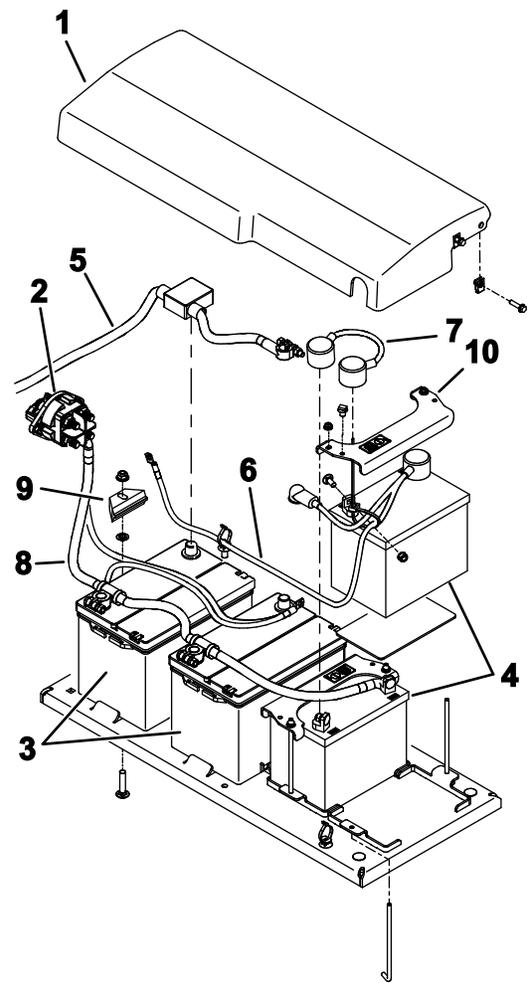

**Figure 112**
5. Remove the 6 flange screws securing rear shroud to the frame and remove the rear shroud (Figure 112).
4. Install the rear shroud (Figure 112).